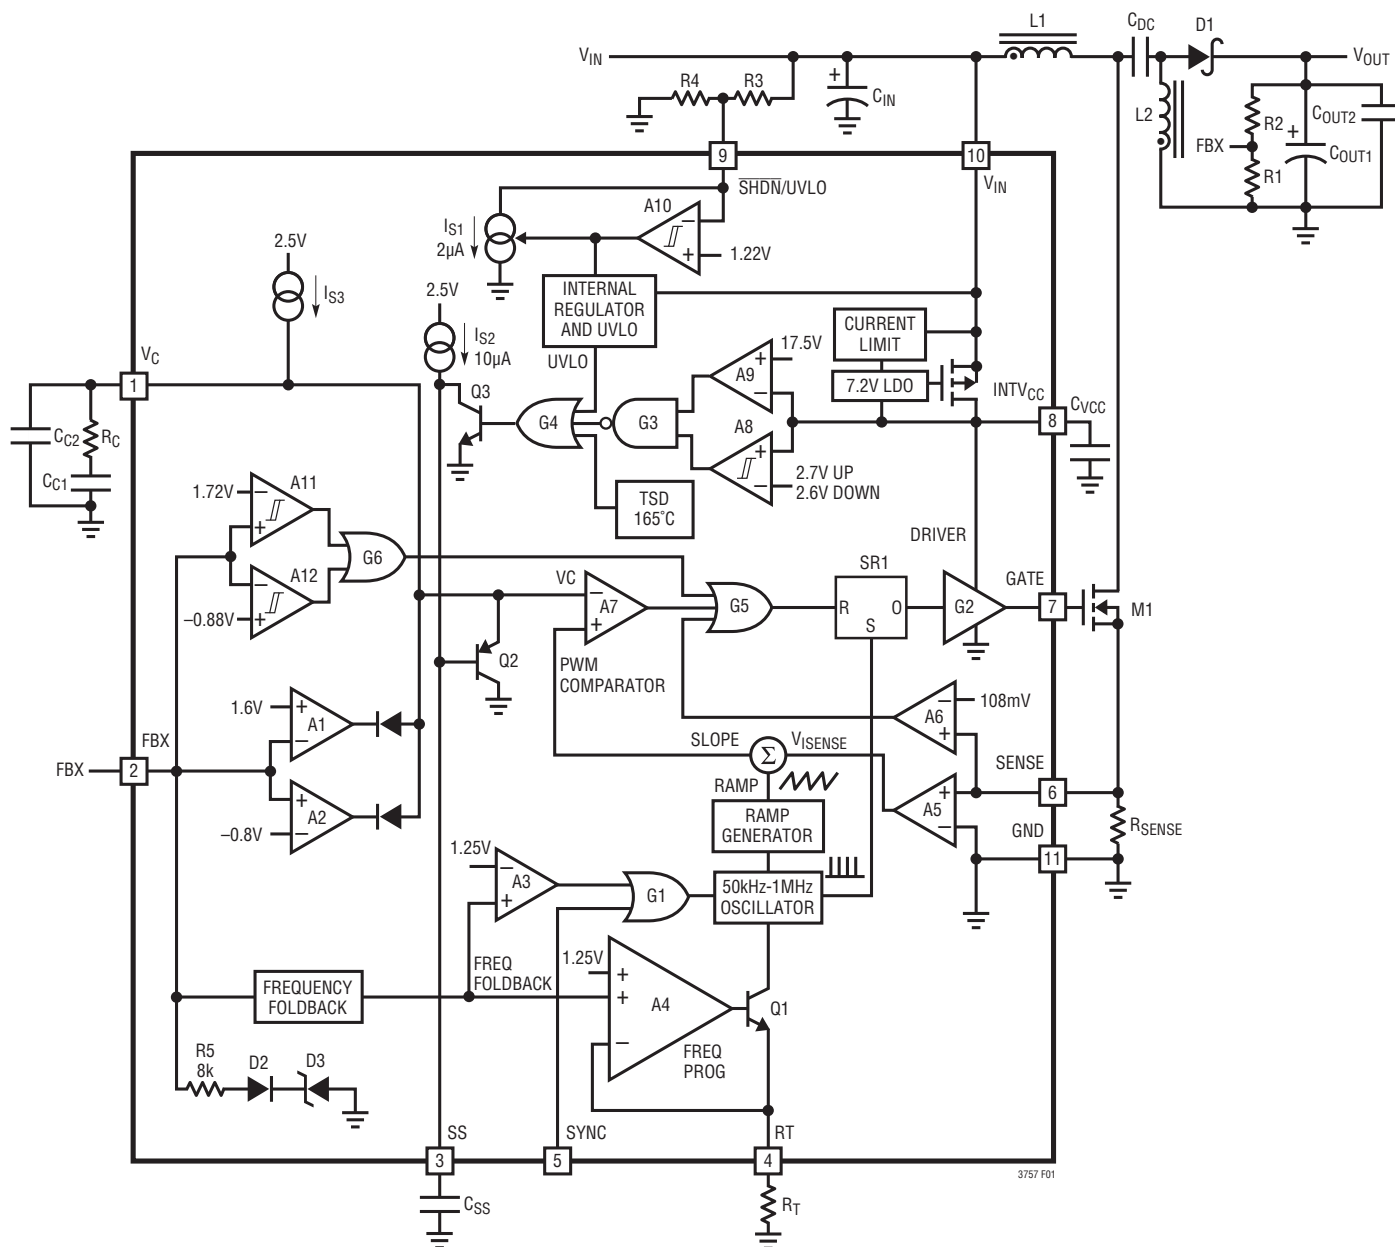

Figure 1. LT3757 Block Diagram Working as a SEPIC Converter
The LT3757 uses a fixed frequency, current mode control scheme to provide excellent line and load regulation. Operation can be best understood by referring to the Block Diagram in Figure 1.
The LT3757 is capable of generating either positive or negative output voltage with a single FBX pin. It can be configured as a boost, flyback or SEPIC converter to generate positive output voltage, or as an inverting converter to generate negative output voltage. When configured as a SEPIC converter, as shown in Figure 1, the FBX pin is pulled up to the internal bias voltage of 1.6V by a voltage divider ($R1$ and $R2$) connected from V_{OUT} to GND. Comparator A2 becomes inactive and comparator A1 performs the inverting amplification from FBX to V_C . When the LT3757 is in an inverting configuration, the FBX pin is pulled down to $-0.8V$ by a voltage divider connected from V_{OUT} to GND. Comparator A1 becomes inactive and comparator A2 performs the noninverting amplification from FBX to V_C .
The purpose of this current is to allow the user to program the rising hysteresis. The Block Diagram of the comparator and the external resistors is shown in Figure 1. The typical falling threshold voltage and rising threshold voltage can be calculated by the following equations:
An internal, low dropout (LDO) voltage regulator produces the 7.2V INTV_{CC} supply which powers the gate driver, as shown in Figure 1. If a low input voltage operation is expected (e.g., supplying power from a lithium-ion battery or a 3.3V logic supply), low threshold MOSFETs should be used. The LT3757 contains an undervoltage lockout comparator A8 and an overvoltage lockout comparator A9 for the INTV_{CC} supply. The INTV_{CC} undervoltage (UV) threshold is 2.7V (typical), with 100mV hysteresis, to ensure that the MOSFETs have sufficient gate drive voltage before turning on. The logic circuitry within the LT3757 is also powered from the internal INTV_{CC} supply.
The choice of operating frequency may be determined by on-chip power dissipation, otherwise it is a trade-off between efficiency and component size. Low frequency operation improves efficiency by reducing gate drive current and MOSFET and diode switching losses. However, lower frequency operation requires a physically larger inductor. Switching frequency also has implications for loop compensation. The LT3757 uses a constant-frequency architecture that can be programmed over a 50kHz to 1000kHz range with a single external resistor from the RT pin to ground, as shown in Figure 1. The RT pin must have an external resistor to GND for proper operation of the LT3757. A table for selecting the value of R_T for a given operating frequency is shown in Table 1.
The output voltage (V_{OUT}) is set by a resistor divider, as shown in Figure 1. The positive and negative V_{OUT} are set by the following equations:
In the applications where V_{OUT} is pulled up by an external positive power supply, the FBX pin is also pulled up through the R2 and R1 network. Make sure the FBX does not exceed its absolute maximum rating (6V). The R5, D2, and D3 in Figure 1 provide a resistive clamp in the positive direction. To ensure FBX is lower than 6V, choose sufficiently large R1 and R2 to meet the following condition:
The LT3757 addresses this mechanism with the SS pin. As shown in Figure 1, the SS pin reduces the power MOSFET current by pulling down the V_C pin through Q2. In this way the SS allows the output capacitor to charge gradually toward its final value while limiting the start-up peak currents. The typical start-up waveforms are shown in the Typical Performance Characteristics section. The inductor current I_L slewing rate is limited by the soft-start function.
The optimum values depend on the converter topology, the component values and the operating conditions (including the input voltage, load current, etc.). To compensate the feedback loop of the LT3757/LT3757A, a series resistor-capacitor network is usually connected from the V_C pin to GND. Figure 1 shows the typical V_C compensation network. For most applications, the capacitor should be in the range of 470pF to 22nF, and the resistor should be in the range of 5k to 50k. A small capacitor is often connected in parallel with the RC compensation network to attenuate the V_C voltage ripple induced from the output voltage ripple through the internal error amplifier. The parallel capacitor usually ranges in value from 10pF to 100pF. A practical approach to design the compensation network is to start with one of the circuits in this data sheet that is similar to your application, and tune the compensation network to optimize the performance. Stability should then be checked across all operating conditions, including load current, input voltage and temperature.